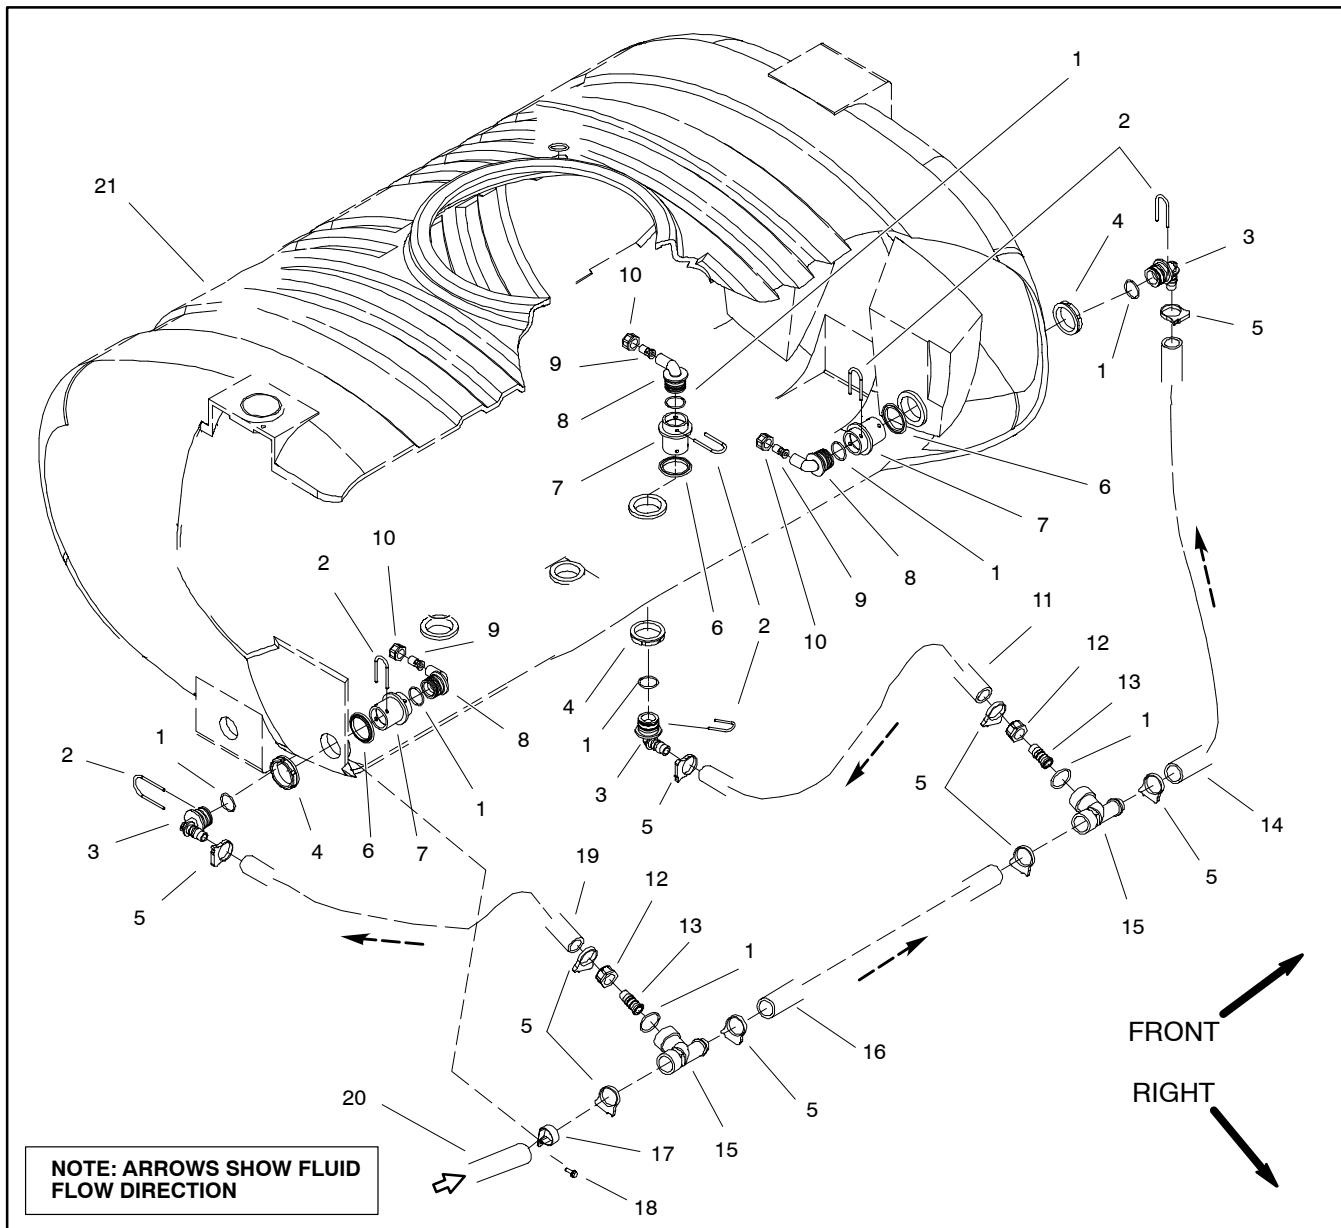

Figure 14
#### Disassembly (Fig. 14)
4. Remove agitation nozzles as required using Figure 14 as a guide. Discard all removed O-rings and gaskets.
#### Assembly (Fig. 14)
1. Install agitation nozzles using Figure 14 as a guide. Replace all removed O-rings and gaskets.